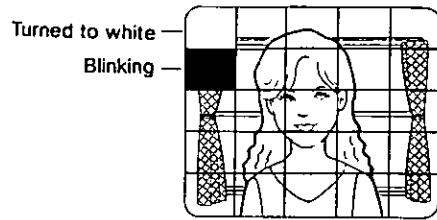

Fig. 54
- To mask other areas, move the cursor to the desired area by using the Up Button (AGC), Down Button (AWC SET), Left Button (WHT BAL) or Right Button (GAIN UP). The previous masked area then stops blinking and turns to white as shown in Fig. 54.